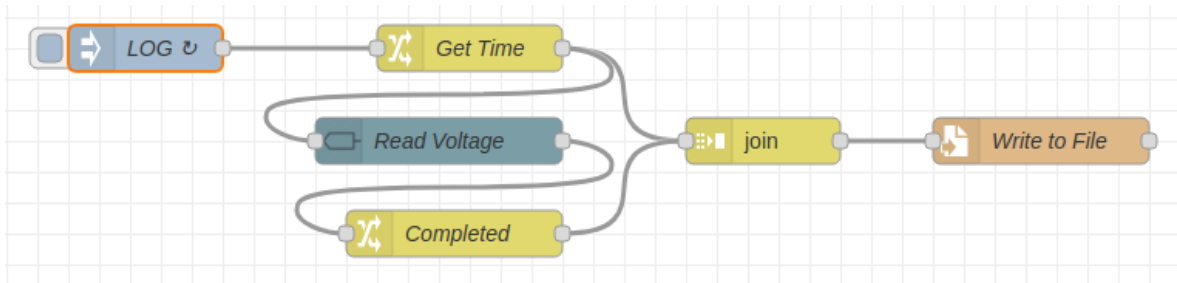

Figure 7-129: Final Flow for Voltage Logging
- Using the Voltage Logging flow from Figure 7-129 take several thousand measurements of the voltage and record them in a file.
**Step 2:** Run the flow from Figure 7-129 and collect about a ten thousand samples of the voltage. At one sample every five seconds this might take 15 hours. Here is a small sample of the collected data in a spreadsheet.